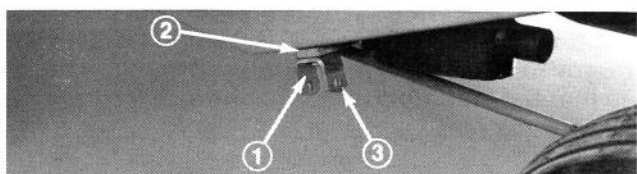

Figure 4
3. Secure Belly Shield hanger and engine support to frame with 3/8 x 1-1/4 in. cap screw and flange nut. Repeat procedure on opposite side of machine (Fig. 4).
4. On diesel machines only, install a 3/8 in. thick spacer between shield hanger and frame (Fig. 4).